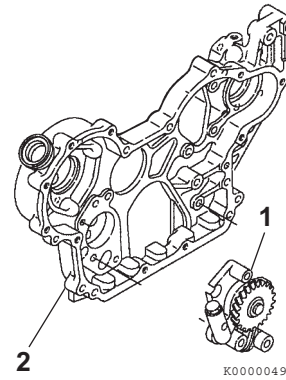

Figure 9-19
3. Reinstall the oil pump assembly (Figure 9-19, (1)) into the gear case housing (Figure 9-19, 2). Tighten the bolts to specified torque.